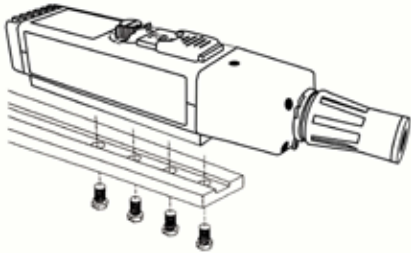

Figure 1-3. Mounting Base
1.4.1.6 Mounting Base. The GCP-2C mounting base is designed to fit directly to the USMC supplied AH-1W mounting Bracket. Four screws are provided, and are used to attach the laser to the mounting bracket. Holes in the screw heads facilitate safety wiring, see Figure 1-3.